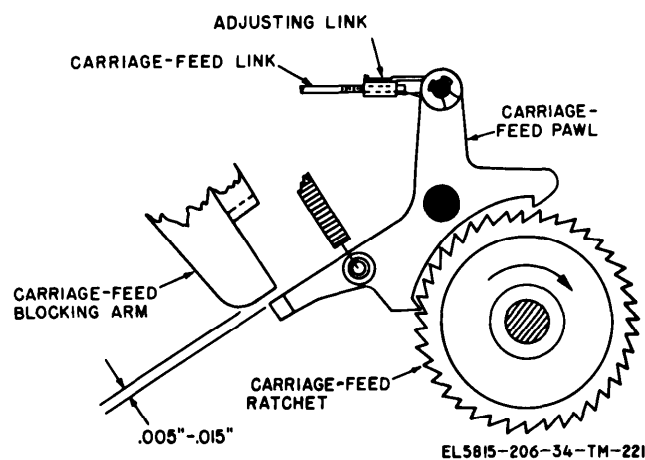

Figure 3-149. Carriage-feed pawl adjustment.
(fig. 3-149)
(4) Loosen the other setscrew in the drive collar on the carriage-feed shaft. Turn the carriage-feed ratchet until a tooth of the ratchet presses firmly against the upper latching arm of the carriage-feed pawl (fig. 3-149). Rotate the drive collar until the cam is positioned within the requirement (*a* above) and tighten both setscrews. Make the carriage-return latch-tripping arm adjustment (para 3-188). Then make the related adjustments (para 3-190 and 3-192).